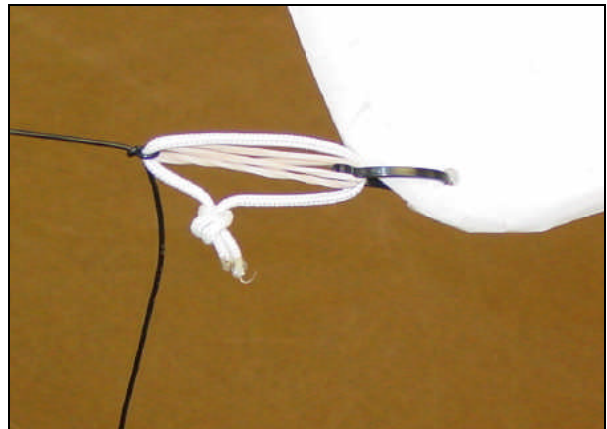

Figure 8. R/C antenna tail attachment
- Remember to reattach the R/C antenna (Figure 8).